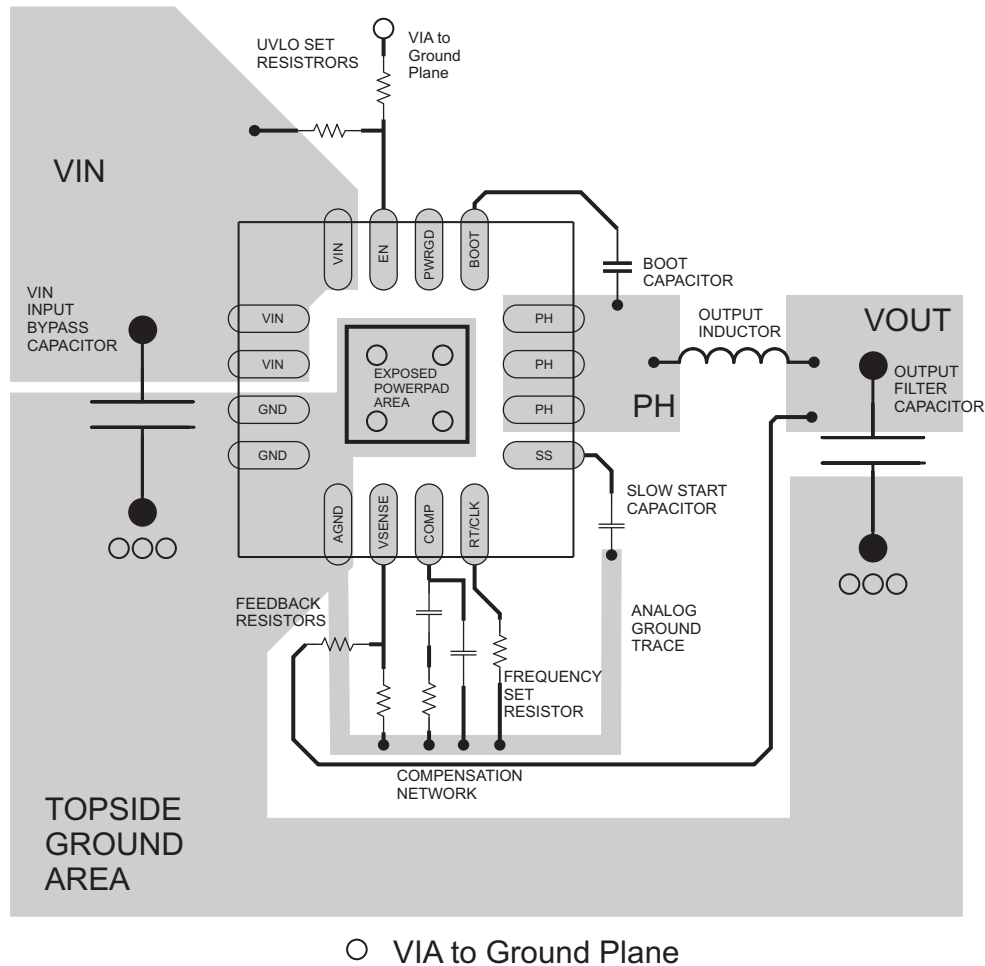

Figure 50. PCB Layout Example
- Minimize the loop area formed by the bypass capacitor connections and the VIN pins. See Figure 50 for a PCB layout example.
- The sensitive analog ground connections for the feedback voltage divider, compensation components, soft-start capacitor and frequency set resistor should be connected to a separate analog ground trace as shown in Figure 50.